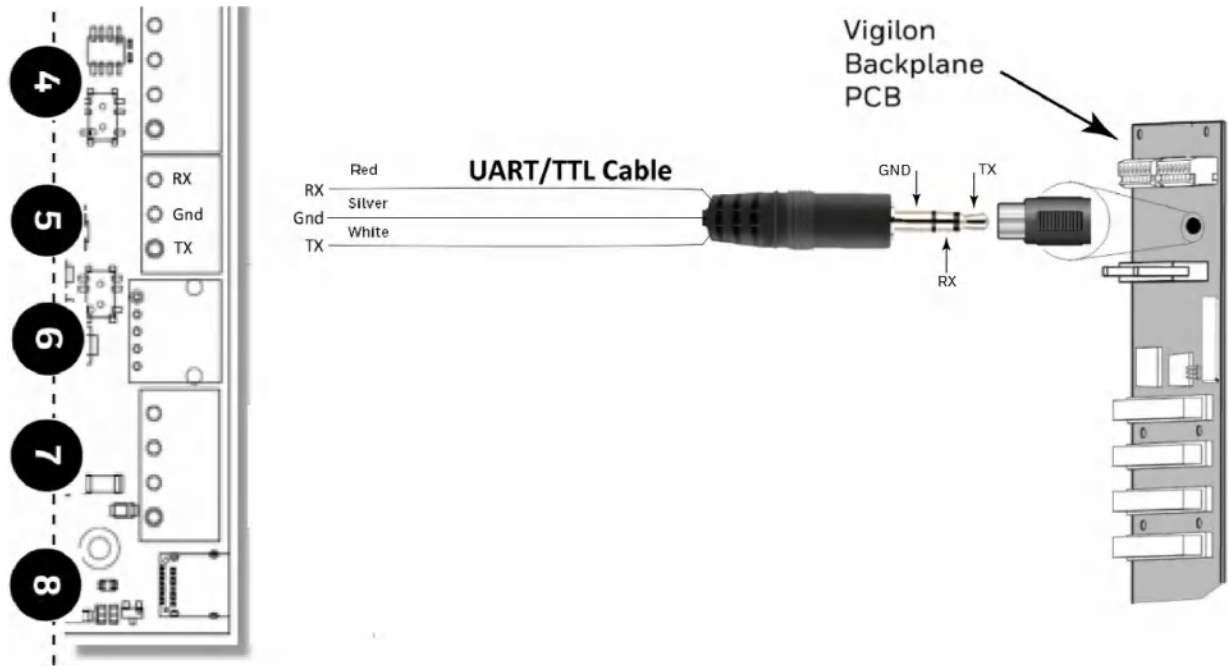

Figure C.21: Vigilon Panels: UART/TTL Connection
1. Within the panel, find the backplane PCB board (see Figure C.21).